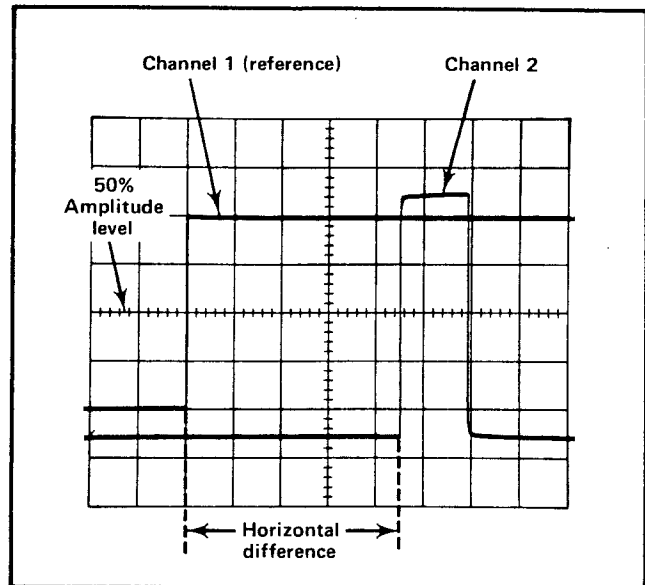

Fig. 2-23. Measuring time difference between two pulses.
11. Measure the horizontal difference between the Channel 1 waveform and the Channel 2 waveform (see Fig. 2-23).
Example. Assume that the TIME/DIV switch is set to 50 μs, the MAG switch to X10 and the horizontal difference between waveforms is 4.5 divisions (see Fig. 2-23).